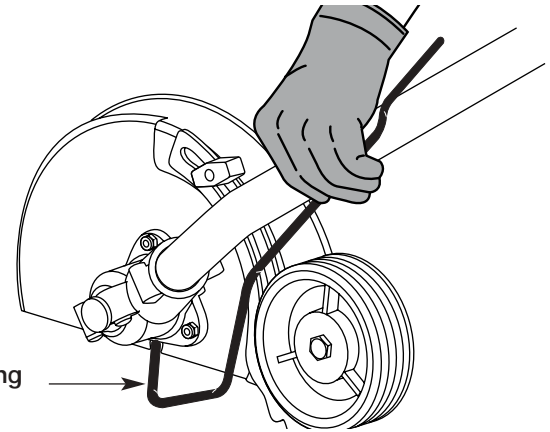

Fig. 30
2. Hold the locking rod in place by grasping it next to the boom of the unit (Fig. 30).